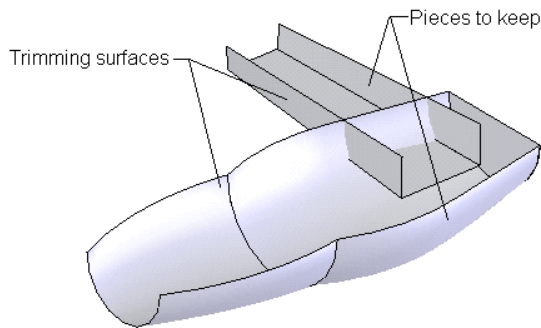

Figure 15-126 Trimming surfaces and the pieces to keep
- d. Next, you will trim the unwanted portion of the lofted surface used to create the handle, refer to Figures 15-126 and 15-127.
2. Select the surfaces as trimming surfaces and the pieces to keep as shown in Figure 15-126 and choose the **OK** button from the **Trim Surface PropertyManager**.